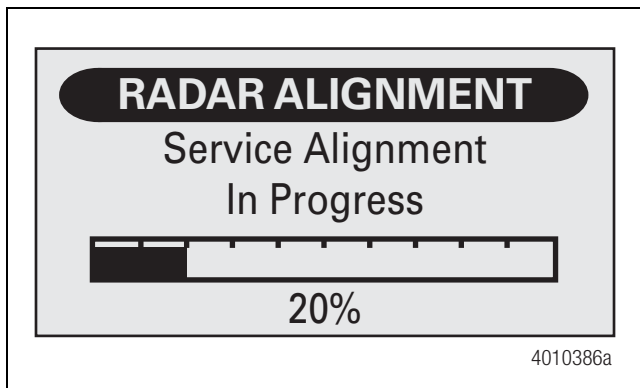

Figure 2.16
2. Using TOOLBOX™ Software, select Options and Perform Service Alignment. When the Start Service Alignment box appears, click Yes. While in this mode, the display will show the progress of the alignment process as shown in Figure 2.16.